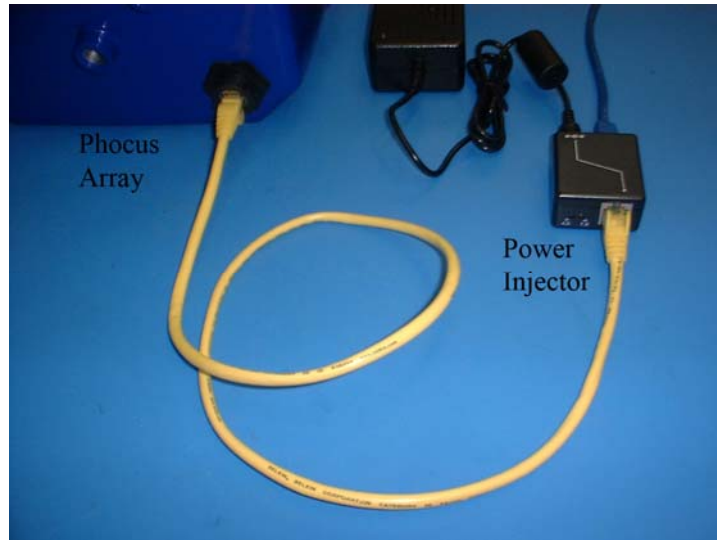

Figure 12 – Power Connections
4. Plug this cable into the RJ45 port on the side of the power injector that has the indicator lights (see Figure 12).